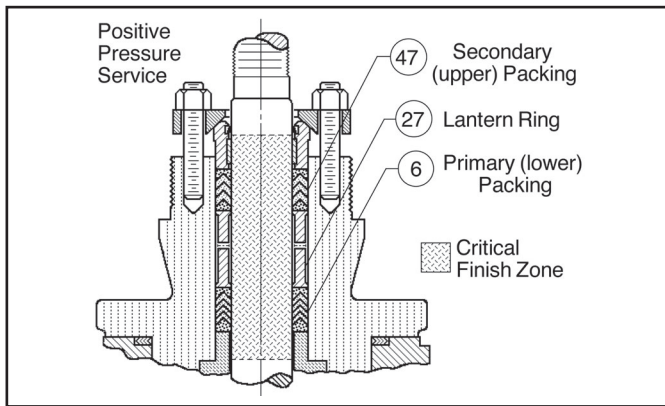

Figure 7: Dual Packing – Arr. "A", Opt-34A
9. Using a sharp, hooked-end, pick-type tool, hook and pull the packing rings (47) up and out of the bonnet’s (2) stuffing box individually. Examine for proper orientation (see Figures 7, 8, 9 and 10).
10. Remove bonnet (2) from vise and invert to allow lantern ring (27) or packing spacer (9) to slide out of the bonnet’s stuffing box.
- b. Using a sharp, hooked-end, pick-type tool, hook and pull the primary lower packing ring set (6) up and out of the bonnet's (2) stuffing box individually. Examine for proper orientation (see Figures 7, 8 and 9).
12. Examine plug/stem (3) at lower guide bushing (8) area for wear. If there are signs of excess wear, guide bushing should be replaced:
- a. Place the bonnet (2) on a bench press. Press guide bushing out of bonnet and discard.
13. Examine plug/stem (3) in critical finish zone where contact is made with the packing (6,47). It is desirable to restore the surface of the stem to a #4 Ra μ -in surface finish; metal removal should not exceed 0.001 inch material. A deeply scratched or pitted stem should be replaced.
14. Examine plug/stem (3) for wear around the seating area. Examine seat ring (11).
15. Examine the inner surface of the bonnet's (2) stuffing box. It is desirable to restore the surface of stuffing box to a #8 Ra μ -in surface finish; metal removal should not exceed 0.001 inch material. A deeply scratched or pitted bonnet (2) should be replaced.